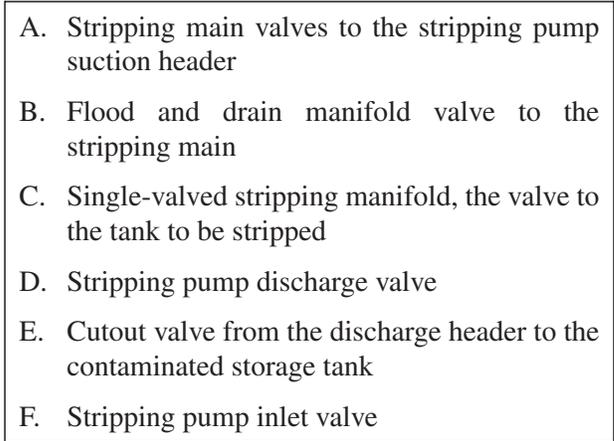

FIGURE 3-A
IN ANSWERING QUESTION 3-45, REFER TO FIGURE 3-A.
- FIGURE 3-B**
- IN ANSWERING QUESTION 3-49, REFER TO FIGURE 3-B